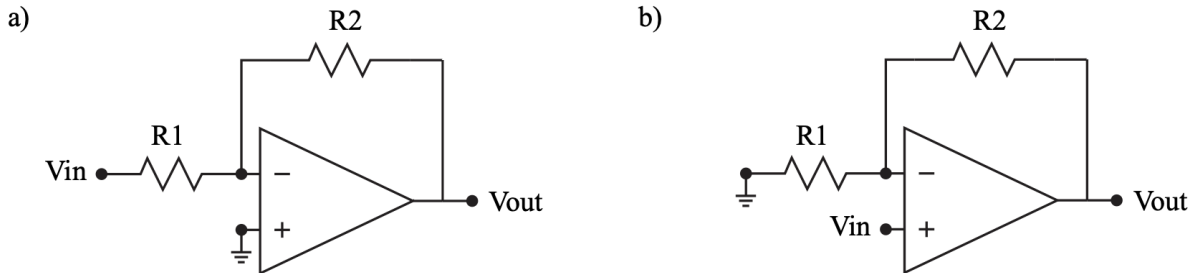

Figure 5.2: Different op amp configurations: inverting amplifier (a) and non-inverting amplifier (b)
An inverting configuration, Figure 5.2 (a), takes its name from the inversion that happens from input to output, giving a output voltage proportional to R_2 and R_1 independent of the actual op amp properties.
Similar to the inverting case, Figure 5.2 (b), this configuration results in an output voltage proportional to R_2 and R_1 but without an inversion and always has a gain of at least 1.
6. Configure an inverting amplifier, Figure 5.2 (a), with a gain of 10 by setting $R_2 = 10k$ and $R_1 = 1k$. Set the input voltage to a sine wave with the following parameters, DC offset(V): 0, Amp(V): 1, Freq(Hz): 1k, and the remaining variables blank.
3. Using the inverting amplifier, Figure 5.2 (a), input a 1k Hz sine wave with a 1 V amplitude from the Wavegen. Determine the maximum output voltage swing by finding the maximum and minimum voltages.
4. Using the inverting amplifier again, Figure 5.2 (a), input a 0.1 V DC from the Wavegen. Determine the effective gain by dividing the output and input voltages. Choose an appropriate voltage scale for the input and output voltages.